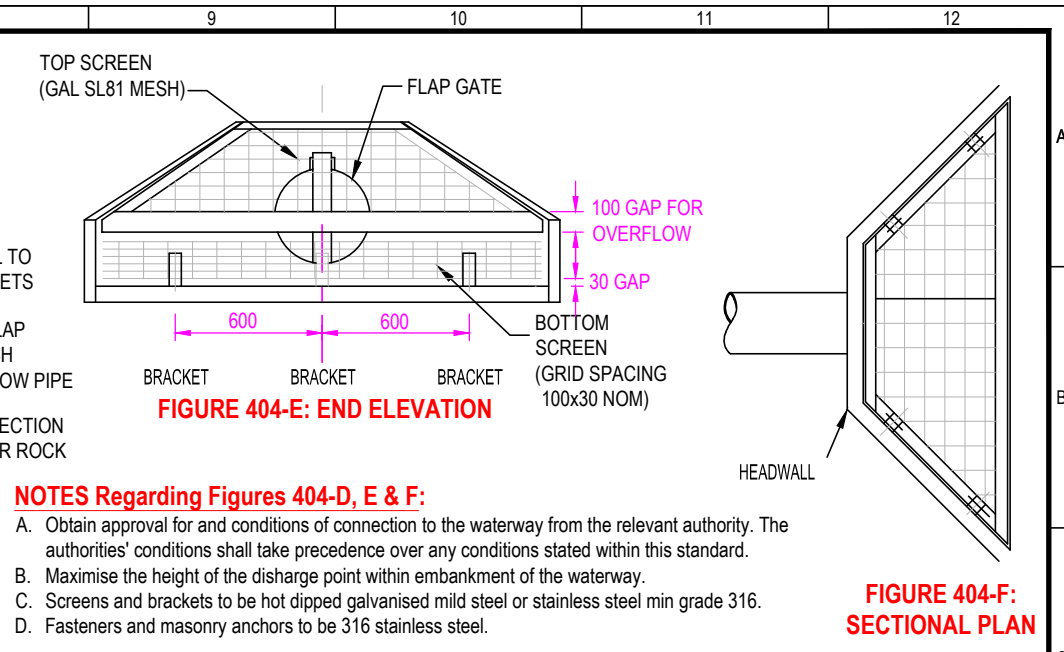

FIGURE 404-E: END ELEVATION
- NOTES Regarding Figures 404-D, E & F:**